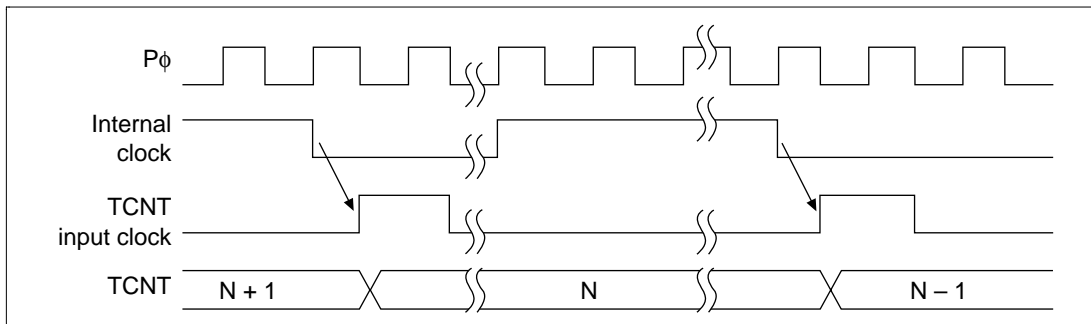

Figure 15.4 Count Timing when Internal Clock is Operating
- **Internal Clock Operation:** Set the TPSC2-TPSC0 bits in TCR to select whether peripheral module clock $P\phi$ or one of the four internal clocks created by dividing it is used ($P\phi/4$, $P\phi/16$, $P\phi/64$, $P\phi/256$). Figure 15.4 shows the timing.